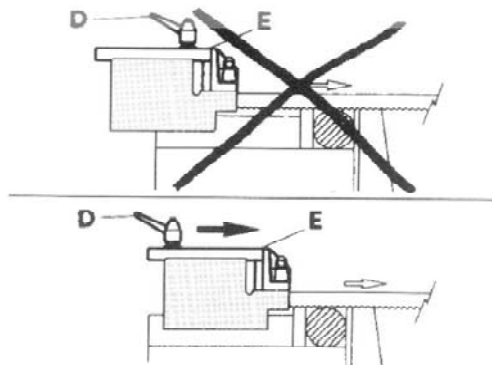

Fig.2
Your cutting machine is provided with a sliding guide (E) with built-in protection, which guides the part of the blade necessary to make the cut, and at the same time, protects the part of the blade not in use. To do this, simply slacken the handle (D) and slide the blade guide (E) so as to bring it closer to or farther from the piece that is to be cut (as clearly shown in fig.2).
- Slacken handle D (fig.2) and slide blade guide E as far as it will go, following the direction of the arrow in fig.2.